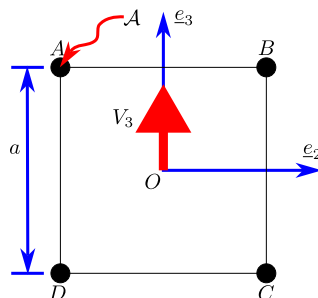

Figure 3: Idealized box section geometry for Q2.2.
2. Suppose that it is desired to reduce the thickness of the sheet metals involved in the above section significantly (such that the new thickness is nearly zero), and booms are to be introduced at the vertices of the box section as shown in fig. 3. Answer the following: